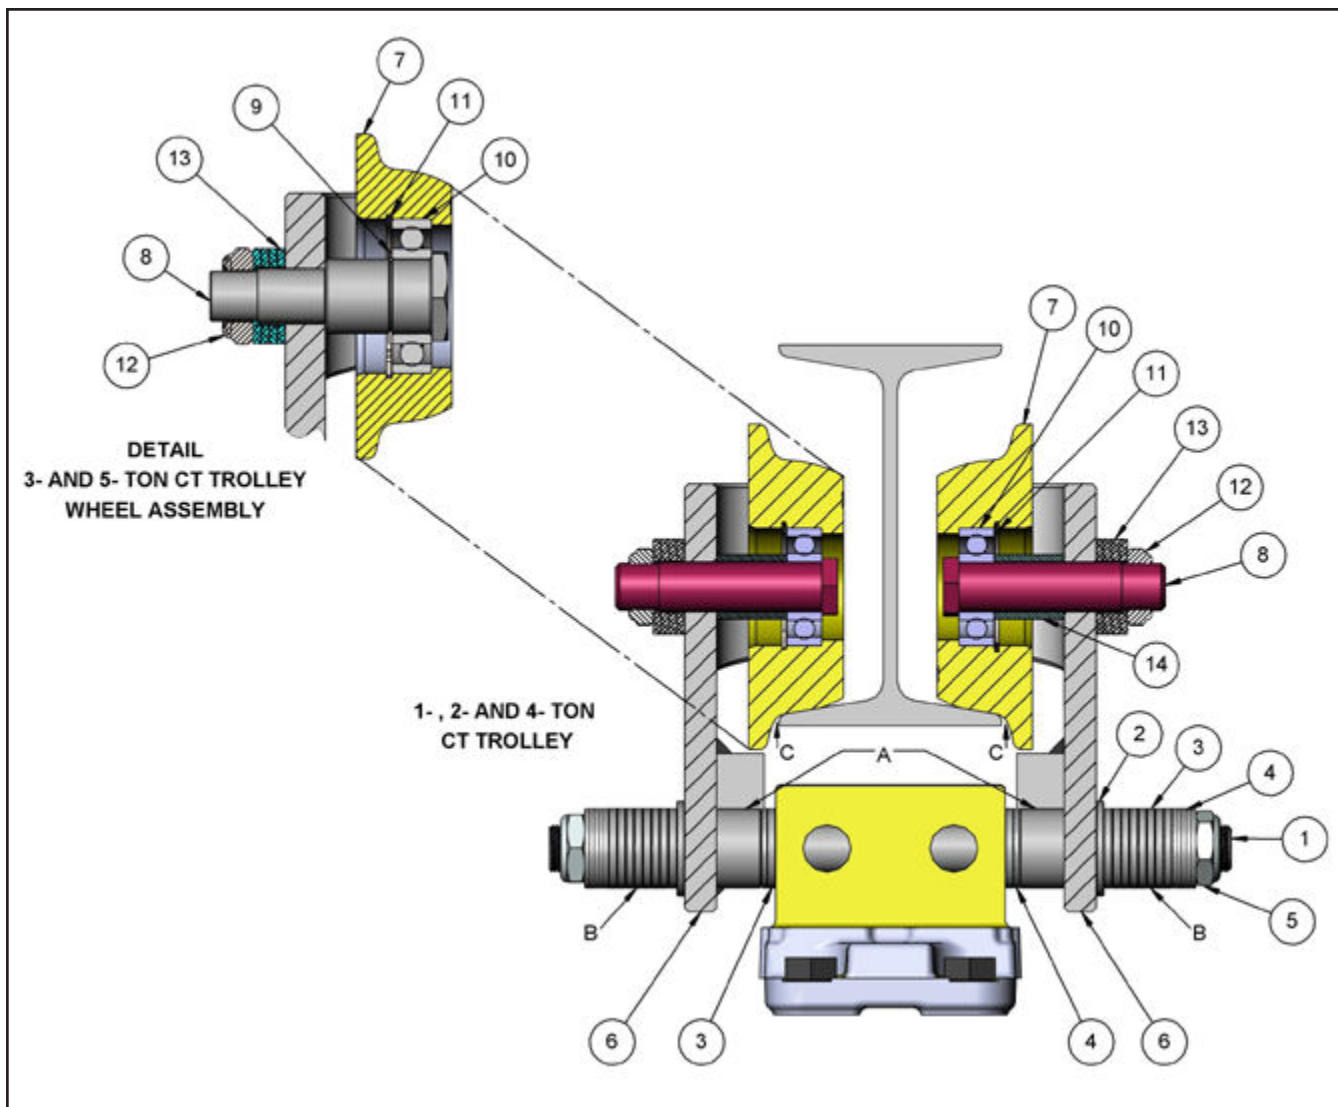

FIGURE 2-1. COFFING CT TROLLEY
- See Figure 2-1 for instructions on adjusting lug-mounted plain trolleys.
- a. "I" Beam Adjustment. Adjustment for "I" beam sizes and tolerances is accomplished by locating the spacer washers as shown in Figure 2-1. Normal placement of washers is given in Table 2-2. Refer to Table 2-1 for identification of part names and numbers.